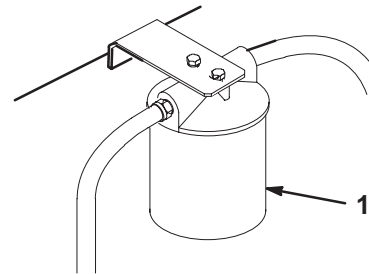

Figure 53
- Place drain pan under filter, remove the old filter and wipe the filter adapter gasket surface clean (Fig. 53).